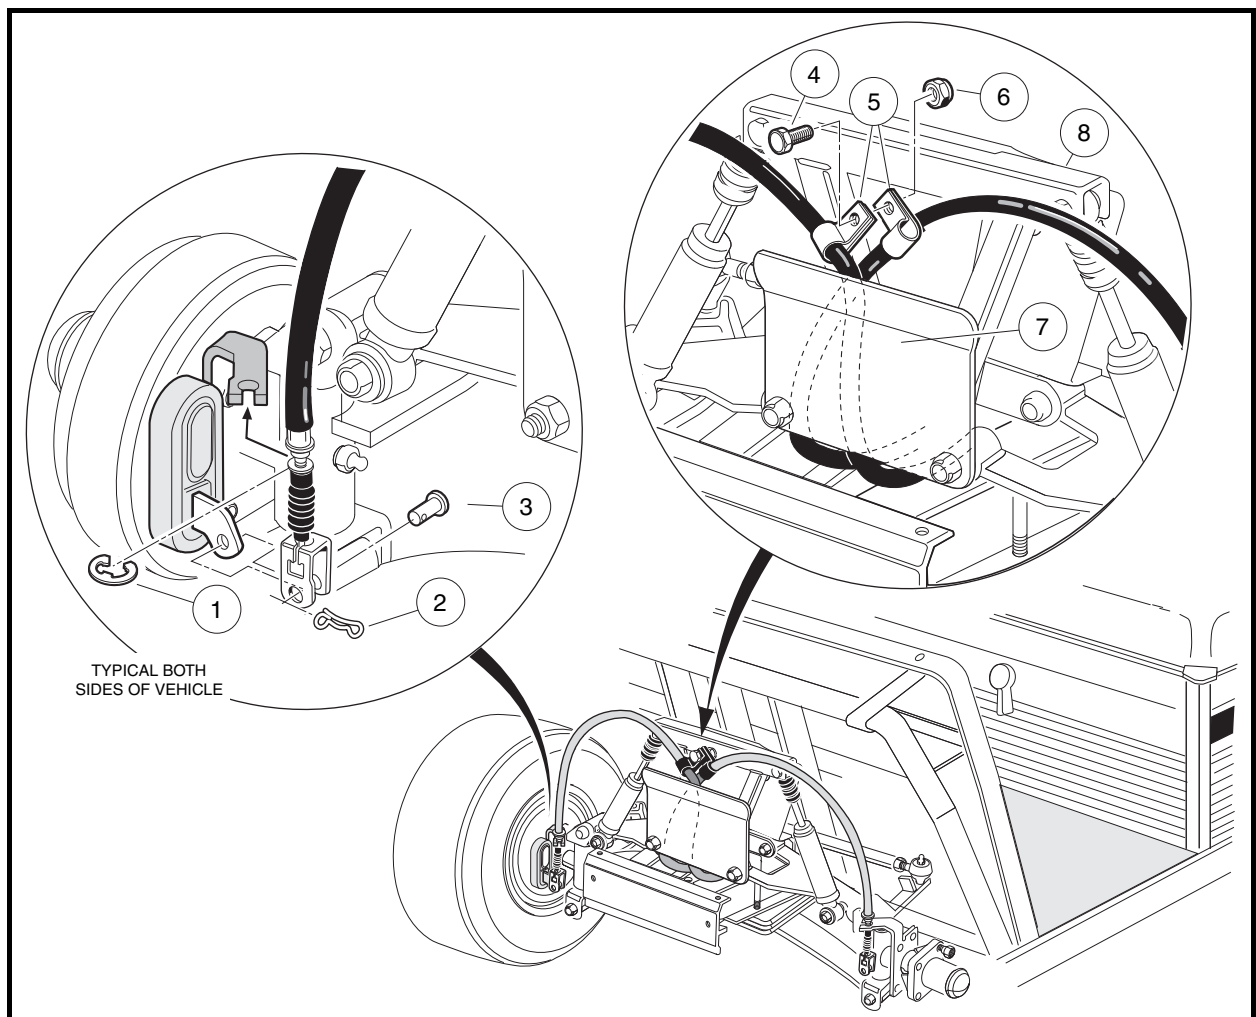

Figure 6-35 Front Brake Cables
1. Remove bow-tie pin (2) and clevis pin (3) from brake lever arm on front brake cluster (**Figure 6-35, Page 6-20**).
2. Remove E-clip (1) from brake cable housing at the front spindle bracket and remove cable from spindle (**Figure 6-35, Page 6-20**).
4. Remove bolt (4) and nut (6) from brake cable clamp (5) (**Figure 6-35, Page 6-20**).
5. Route brake cable between the shock support (8) and brake cable guide bracket (7) (Figure 6-35, Page 6-20). Secure brake cable retainer clips (5) with a bolt (4) and nut (6).
6. Install brake cable through the front spindle brackets and install E-clip (1).
7. Install brake cable clevis onto brake lever arm and install clevis pin (3) and a new bow-tie pin (2).